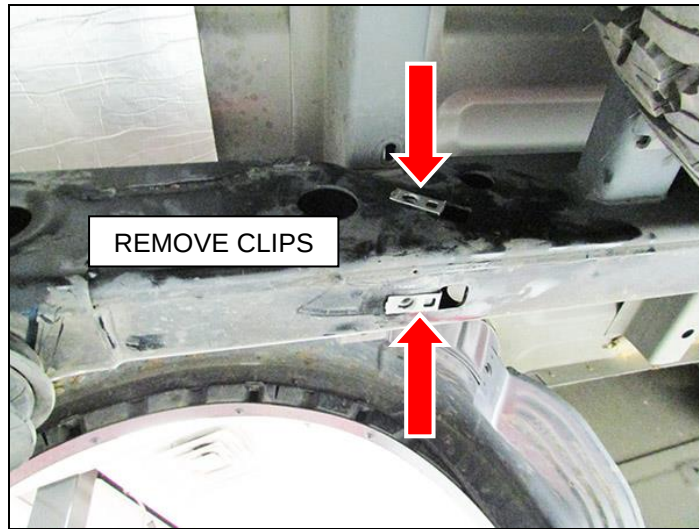

Figure 1
13. Remove (x2) clips from where the right side isolation mount bracket mounted and replace them at the open slots above the BlackHeart Tips (refer to **Figures 1 & 2**).